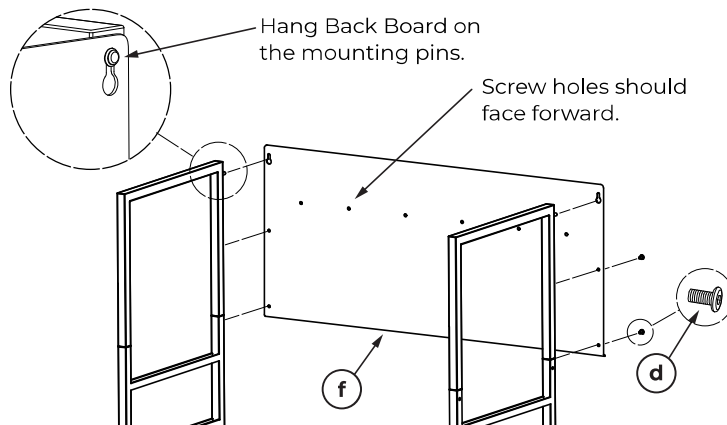

Figure 4
- Hang the Back Board (f) on the mounting pins. Line up all holes and install (2) Allen screws (d) on each side of the Back Board (f). Tighten all (4) Allen screws (d). See Figure 4.